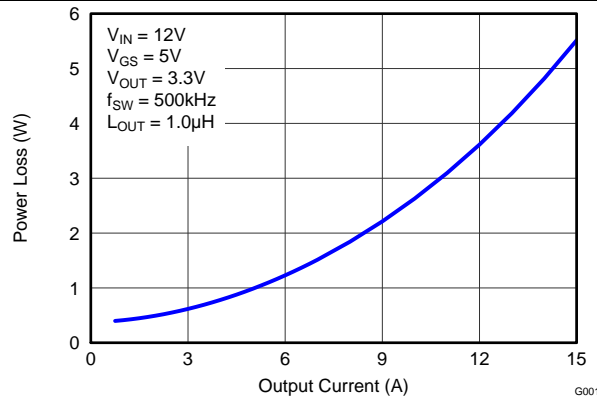
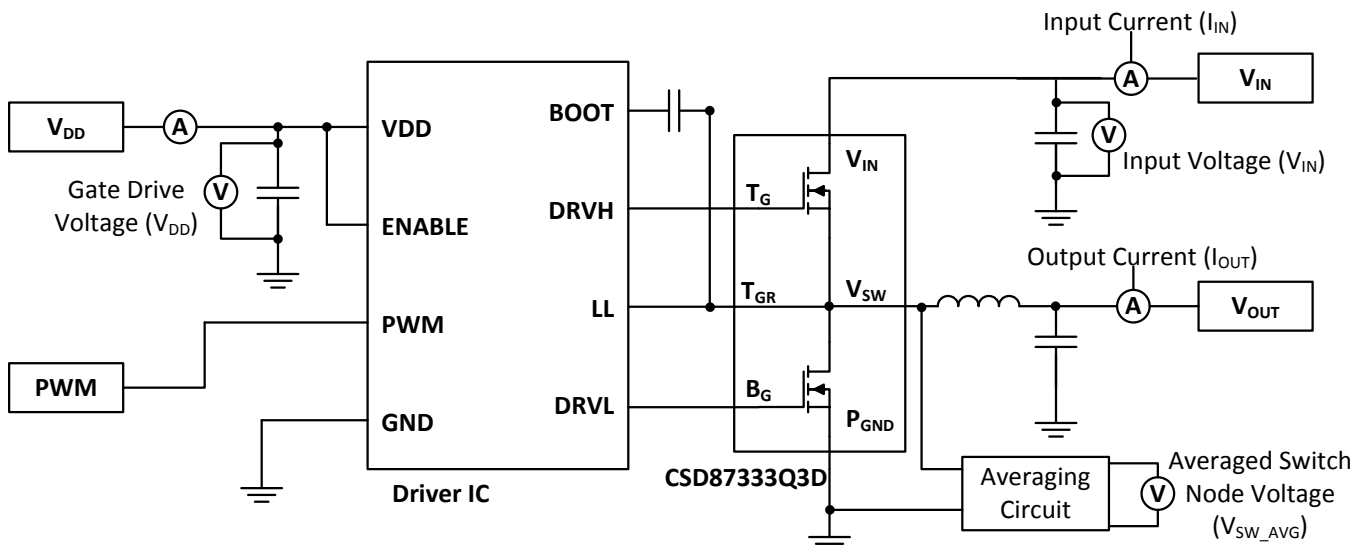

Figure 1. Power Loss vs Output Current
Figure 19. Typical Application
The Typical Power Block System Characteristic curves (Figure 1 through Figure 9) are based on measurements made on a PCB design with dimensions of 4.0-inch (W) × 3.5-inch (L) × 0.062-inch (H) and 6 copper layers of 1 oz. copper thickness. See Applications for detailed explanation. $T_A = 125^\circ\text{C}$, unless stated otherwise.
MOSFET centric parameters such as $R_{DS(ON)}$ and Q_{gd} are needed to estimate the loss generated by the devices. In an effort to simplify the design process for engineers, Texas Instruments has provided measured power loss performance curves. Figure 1 plots the power loss of the CSD87333Q3D as a function of load current. This curve is measured by configuring and running the CSD87333Q3D as it would be in the final application (see Figure 19). The measured power loss is the CSD87333Q3D loss and consists of both input conversion loss and gate drive loss. Equation 1 is used to generate the power loss curve.
The power loss curve in Figure 1 is measured at the maximum recommended junction temperatures of 125°C under isothermal test conditions.
- Power Loss at 10 A = 2.6 W (Figure 1)